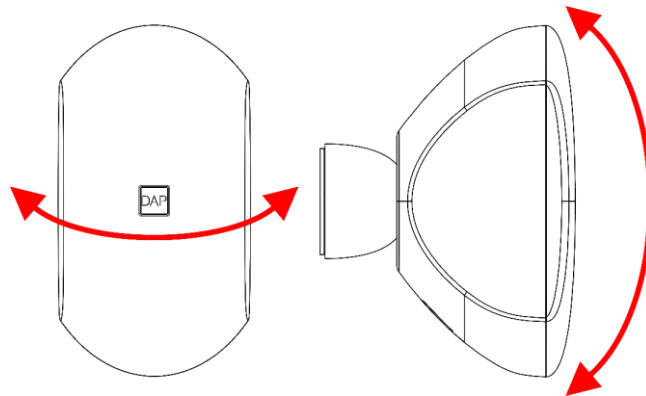

Fig. 22
- 03) Tilt the device. The tilt range is 30° in all directions (Fig. 22).